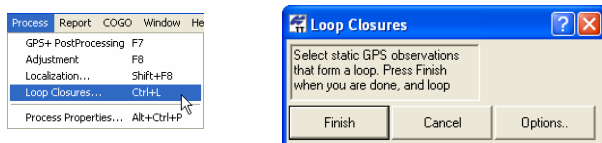

Figure 6-33. Process Loop Closure
1. To generate a loop closure report, click **Process ► Loop closures**. The **Loop closures** dialog box will display (Figure 6-33).